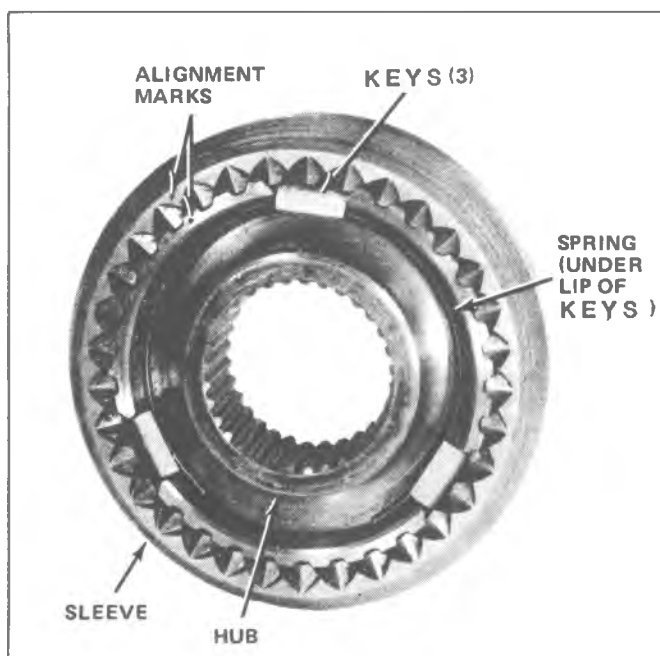

Fig. 7B-14B--Second-Third Synchronizer Assembly
**NOTE:** Keys have small lip on each end. When correctly installed, this lip will fit over spring (Fig. 7B-14B).